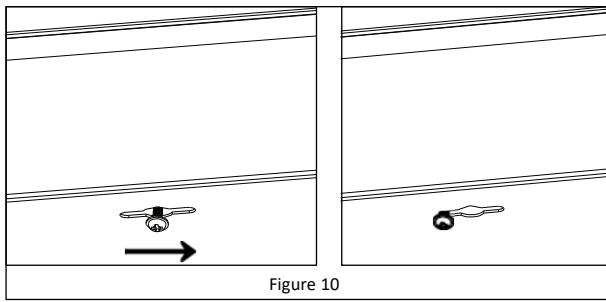

Figure 10
8. Guide the heads of the four wood screws into the keyhole slots and slide the fixture base in the direction such that the wood screw heads rest over the narrow part of the keyhole slot. Ensure that the fixture is supported and tighten the four wood screws until the fixture is secured to the mounting surface. *See Figure 10.*